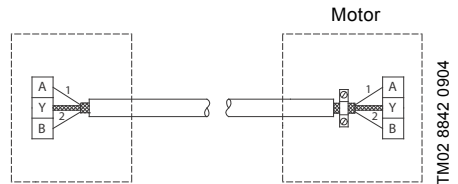

Fig. 12 Connection with screened 2-core cable
- If a 2-core cable is used in the installation, connect it as shown in fig. 12.